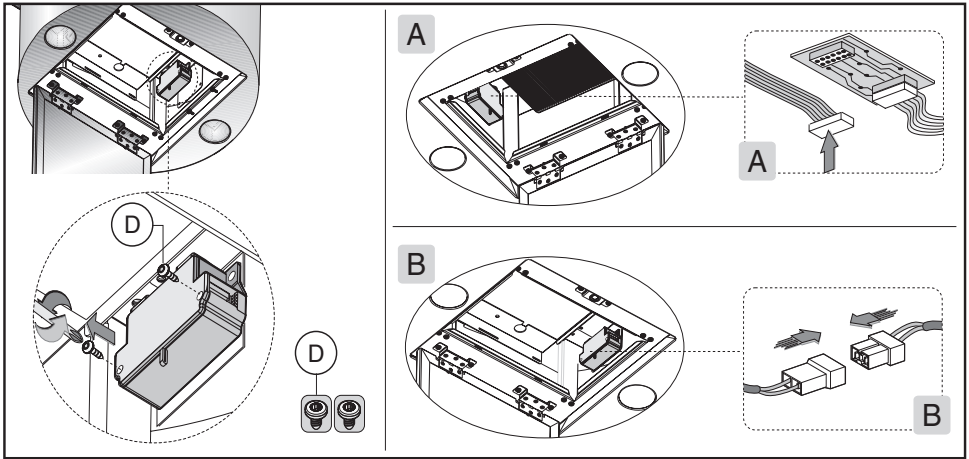

Fig.12
Before performing this connection, loosen the 4 screws **D** on the two boxes and open the cover panels (Fig. 12).
- Perform the necessary electrical connections between the cooker hood body and the motor assembly (Fig. 12 A and B).